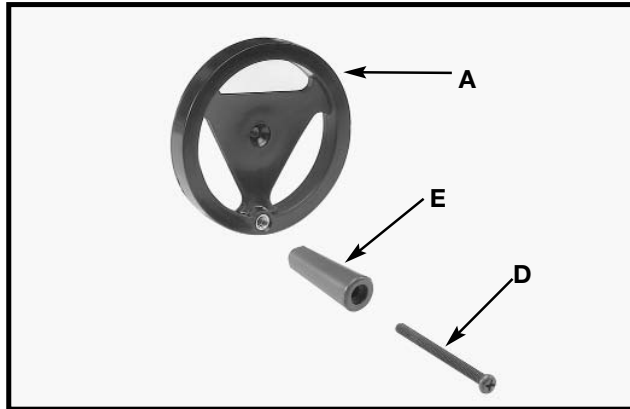

Fig. 5
1. Insert an M6x1x55mm pan head screw (D) Fig. 5 through the handle (E). Attach the handle (E) to the handwheel (A) by threading the screw (D) clockwise into the handwheel.